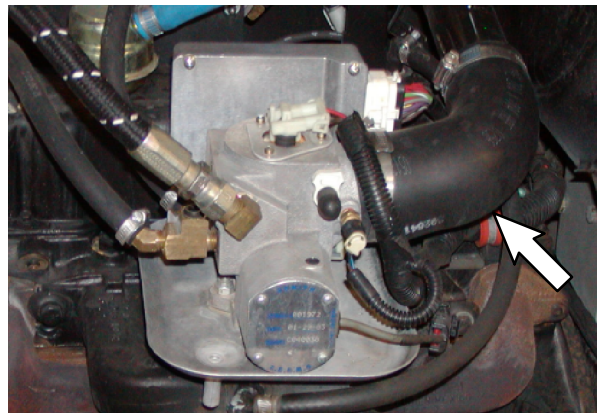
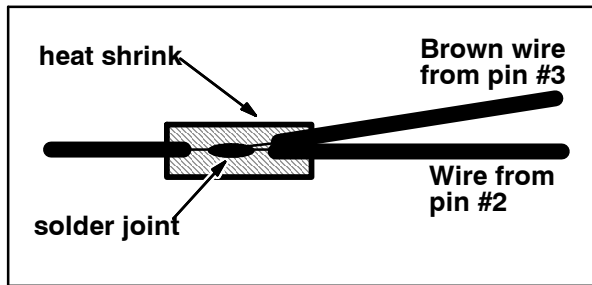

FIG. 3
FIG. 7
28. Remove the air intake hose from the machine. Refer to Fig. 3.
20. Solder the loose end of the brown wire in **pin #3** to the wire from **pin #2**. Solder wires at an angle so heat shrink can be positioned over the solder joint for the best possible seal. Refer to Fig. 7.
21. Heat shrink the heat shrink over the solder joint and the exposed portions of both the brown wire in **pin #3** and the wire from **pin #2**. Refer to Fig. 7.
27. Connect both connectors to the new ECU controller (11).
28. Reattach the air intake hose to the machine. Refer to Fig. 3.